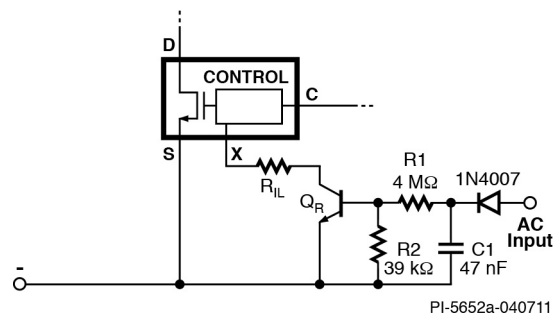

Figure 3 – Fast AC Reset Circuit.
The TOPSwitch-JX family has a fast AC reset function which can be configured on the EXTERNAL CURRENT LIMIT (X) pin (as shown in Figure 3). Should the device stop switching due to a latching OVP fault condition, the circuit connected to the X pin will force I_X to exceed $I_{X(TH)} = -27 \mu A$ (typical) and reset the latch when the AC input is disconnected or falls below a set threshold value.
In Figure 3, R1, R2 and C1 set the time after AC is removed before the latch is reset. A higher gain BJT Q_R is desirable to allow a higher resistance value for R1 and lower capacitance value for C1, and thus minimize the circuit dissipation.